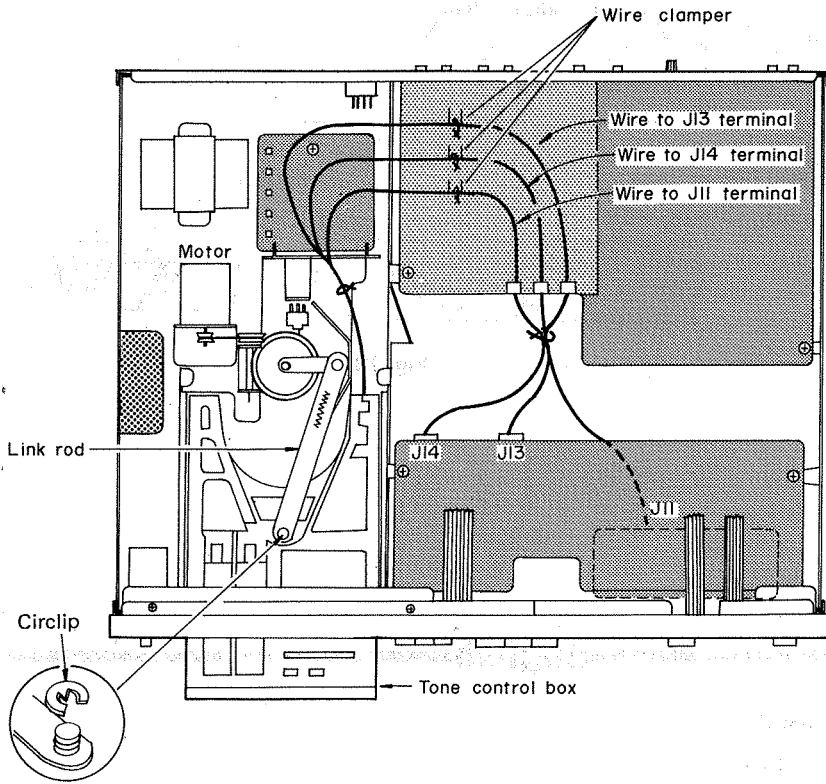

Fig. 13
- (1) Remove the cabinet.
- (2) As shown in Fig. 13, cut off the lead clasper (Part No. SHR301) which clamps the leads J11, J13 and J14 led from the control circuit.
- (3) As in Fig. 13, remove circlip ring and detach the link rod from the tone control box.